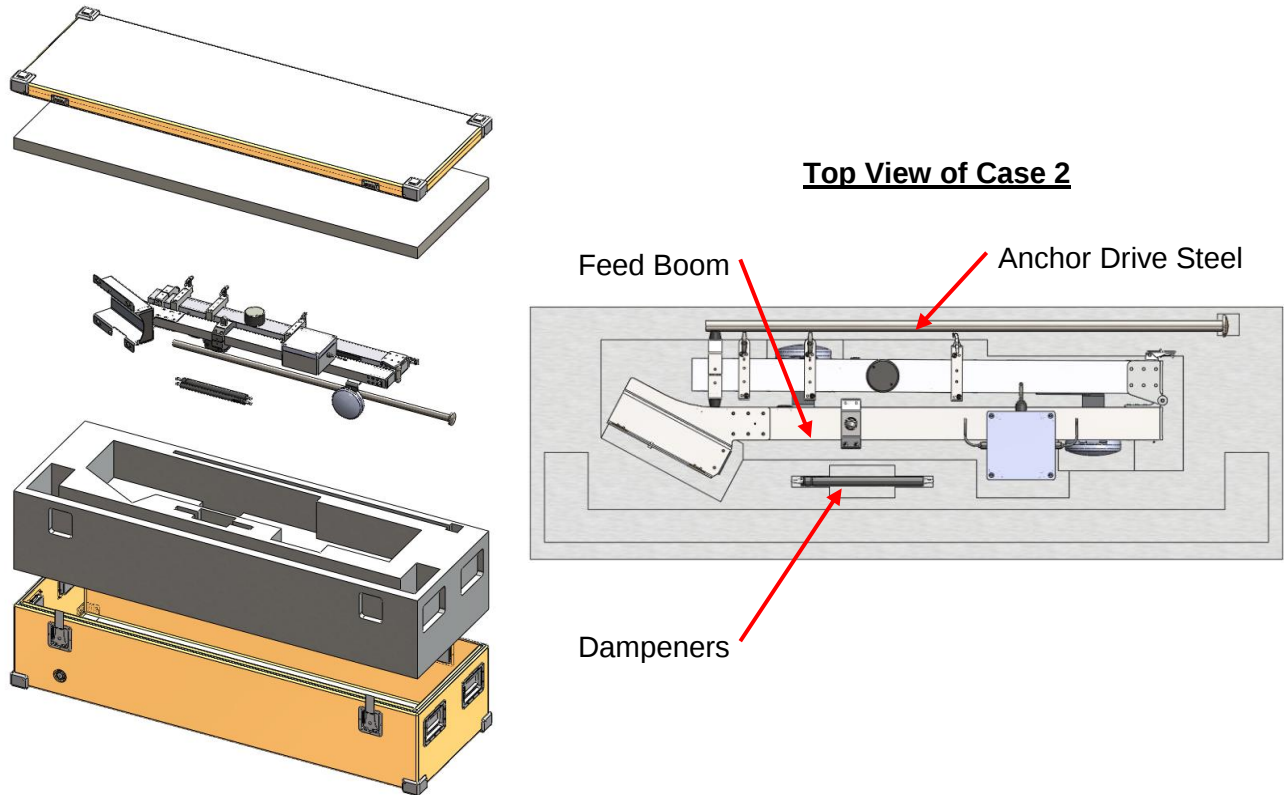

Figure 47. Case No. 2 Pack-Up, Feed Components
22. Detach the dampeners by removing two captive ball detent pins and place in Case 2 as shown in Figure 47.
23. Remove the bottom captive ball detent pin to remove feed boom assembly and place in Case 2 as shown in Figure 47.